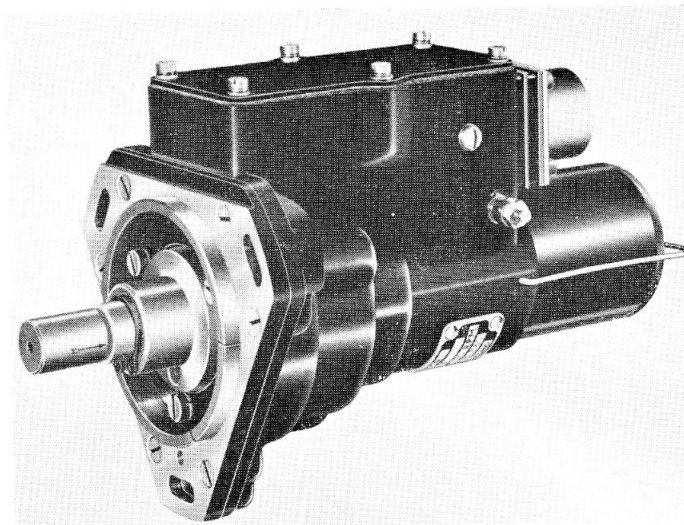
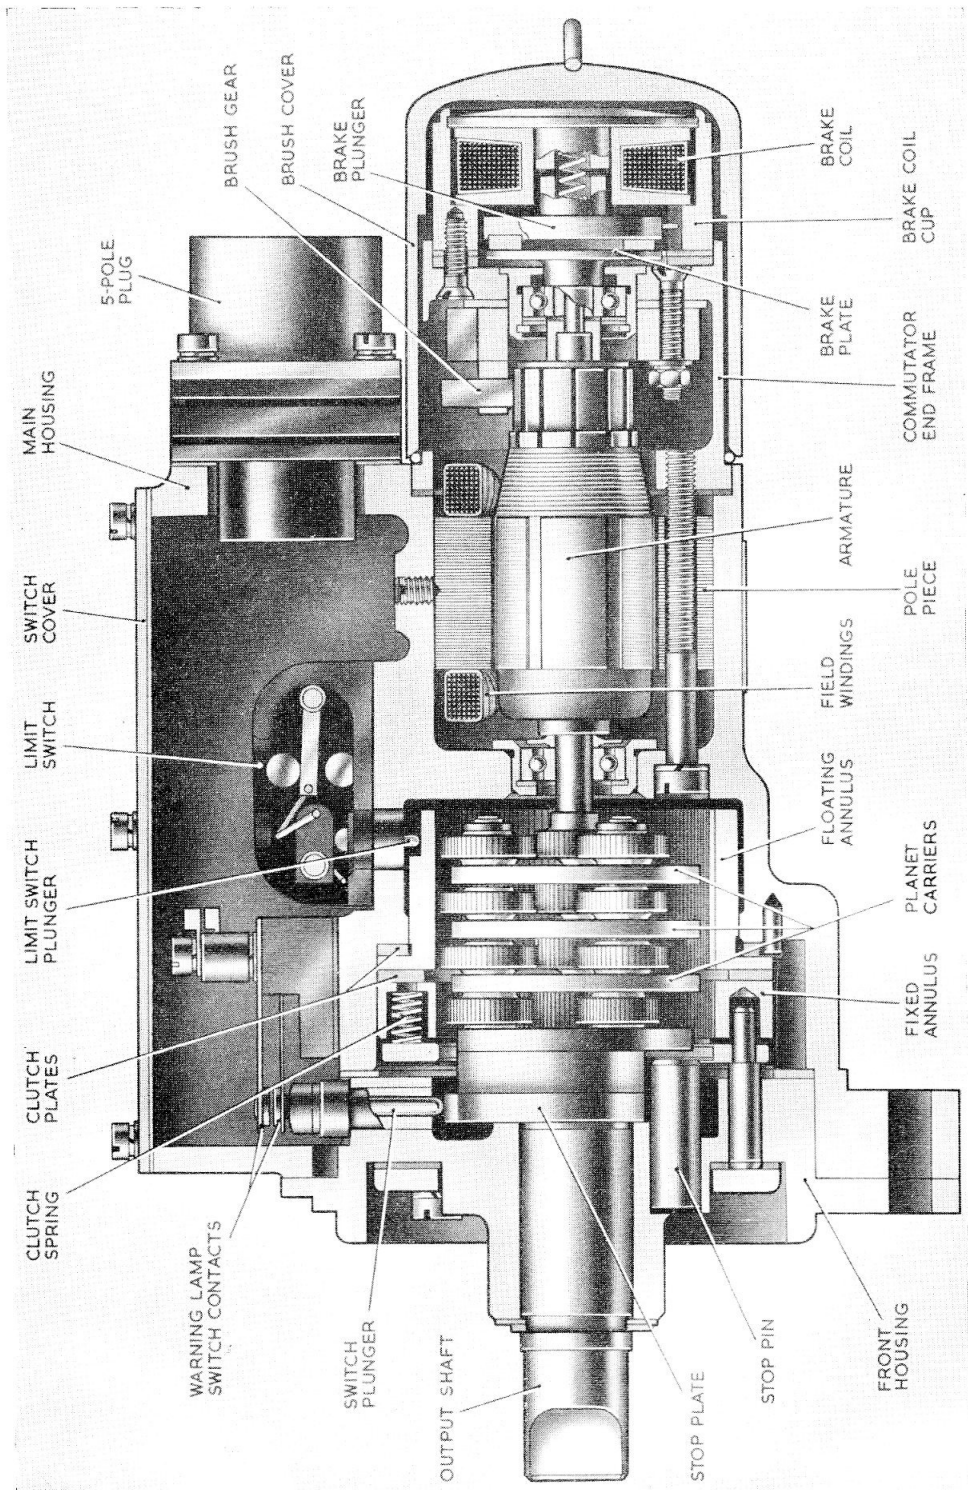
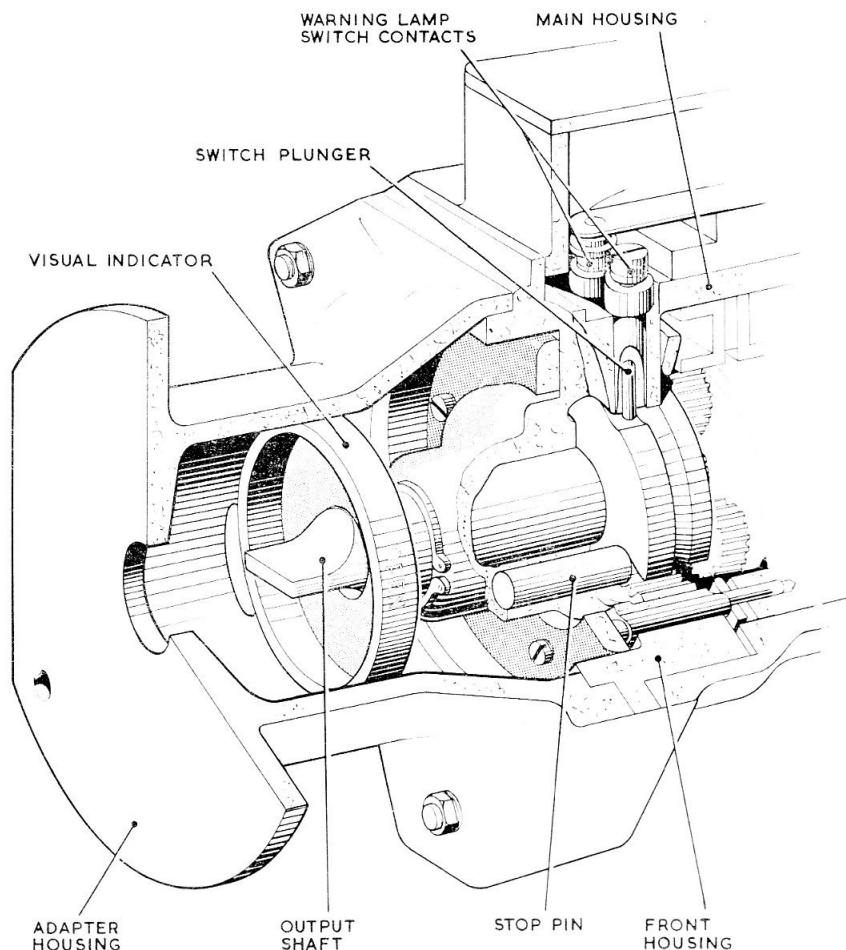

Fig. 1. General view of C5600 actuator
Fig. 2. Sectional view of actuator
Fig. 3. Adapter housing and visual indicator
2. The construction of the C5600 series of actuators is illustrated in fig. 1 and 2. Fig. 1 shows a Type C5602 actuator, and fig. 2 a C5611, which are typical of the series. Fig. 3 illustrates the adapter housing and visual indicator, which are fitted to some of the machines. The actuator incorporates a co-ordinated limit switch, clutch and stop mechanism set for the specific angular travel; it is not, however, designed for continuous inching.